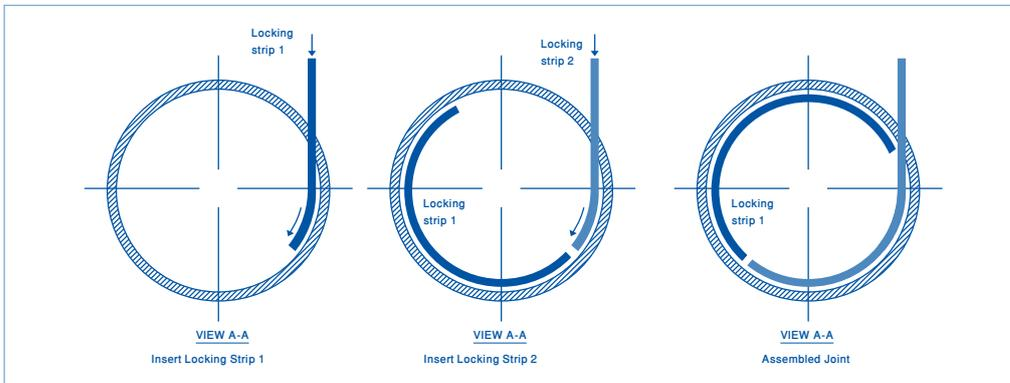

Figure 18: Insertion of Two Locking Strips
10. For diameters DN 800 mm (DN 33 inch) and above, two locking strips shall be used for one joint. This is due to limitation in length of nylon locking strips. Insertion of two locking strips on one joint is schematically shown in Figure 18.